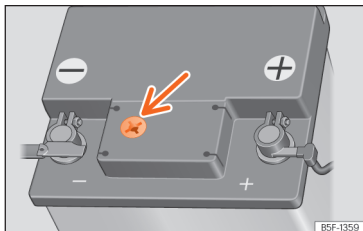

Fig. 187 Sight glass on the top of the 12 volt battery (schematic representation).
- Check the colour display in the sight glass on the top of the battery >>> Fig. 187.